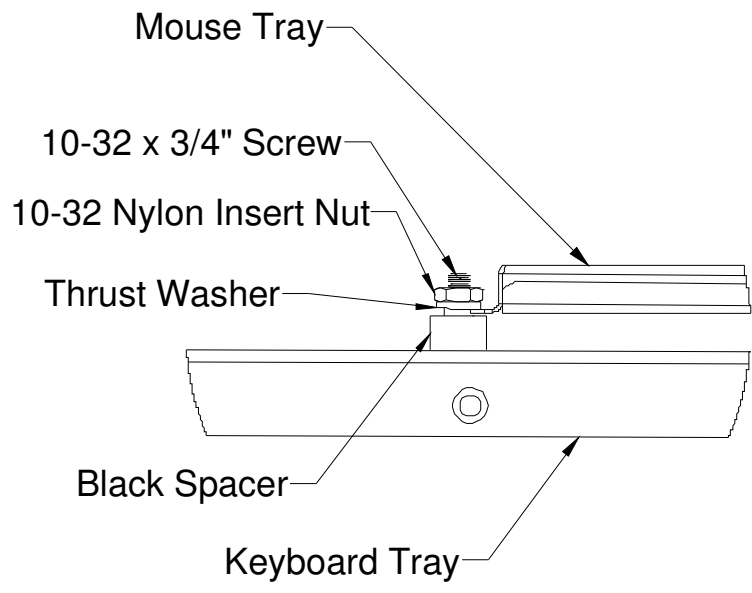

Figure 5
- Insert 10-32 x 3/4" Screw through the hole in the Keyboard Tray and Thrust Washer and thread the 10-32 Nylon Insert Nut onto the Screw. It should look like the illustration shown in Figure 5 below